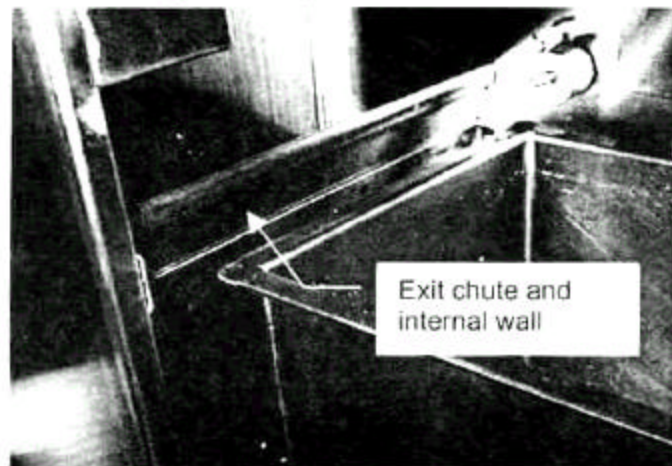

Figure 9 – Install exit chute
- Secure the **food exit chute**, flange side up, into the **cut-out** on the left hand side of the **AUTOFRY** by inserting the **food exit chute** into the **cut-out** space and lifting up into the cavity until the flange can be placed over the raised edge of the internal wall (see Figure 9).